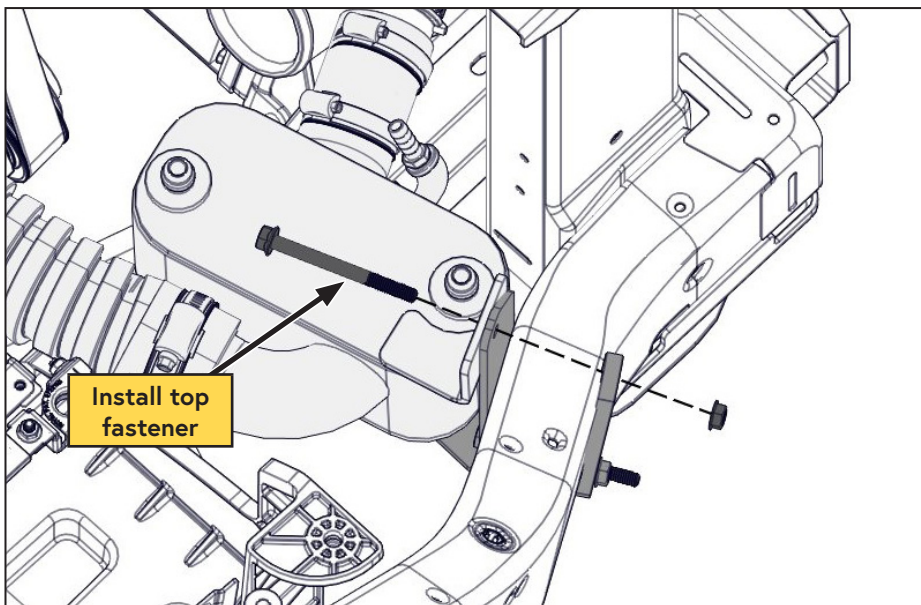

Figure 35 — Install top fastener
- ☐ Install the top cooler bracket fastener finger tight (Figure 35).